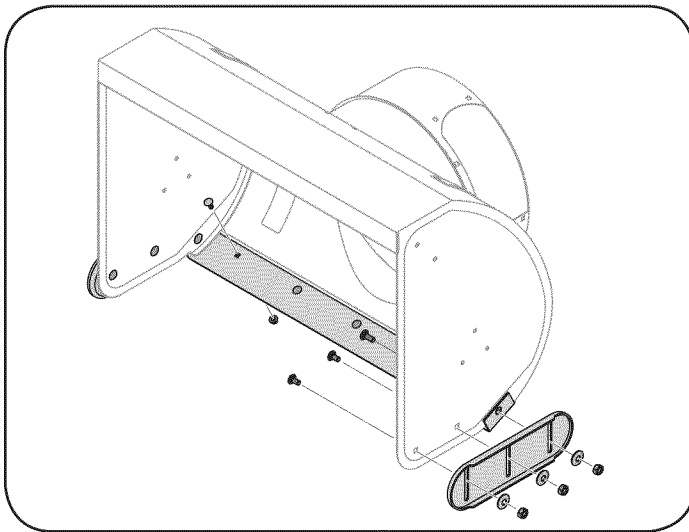

Figure 23
1. Remove the six carriage bolts and hex nuts that secure the two skid shoes to the sides of the auger housing. Refer to Figure 23.
3. Remove the four hex nuts and carriage bolts that secure the shave plate to the bottom of the housing. Refer to Figure 23.